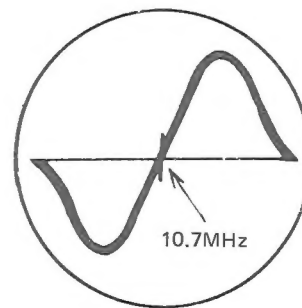

Fig. 11
5. Align the L19 & 20 so that the S-curve will become symmetrical and maximum. (Refer to Fig.11.)